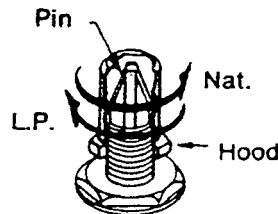

FIGURE 3
1. Turn all the valve hoods down until snug against the pin. Same as in Fig. 3.
To convert to L.P. see Figure 3.